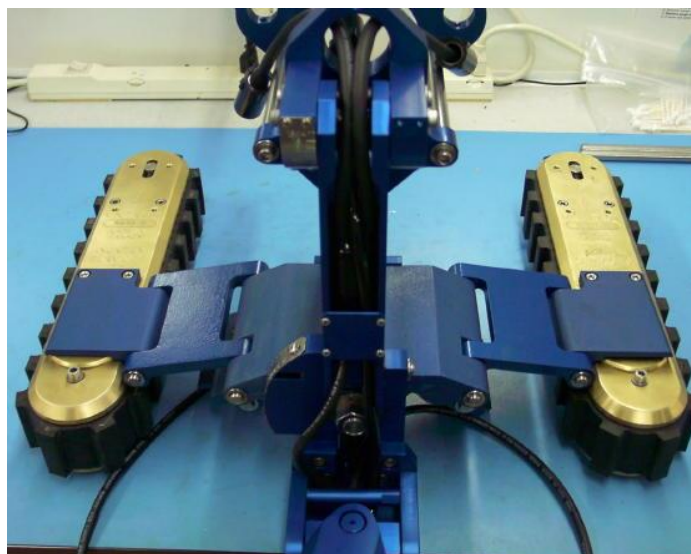

FIGURE 17: TRACKS FLAT ON BENCH – OUTER BRACKETS
2. Figure 17 shows the preferred starting point for track installation. Lay the tracks out on the bench as shown with the chassis straddled between them. Bolt the two-outside links in place using ¼-20 x 5/8-inch socket cap screws.